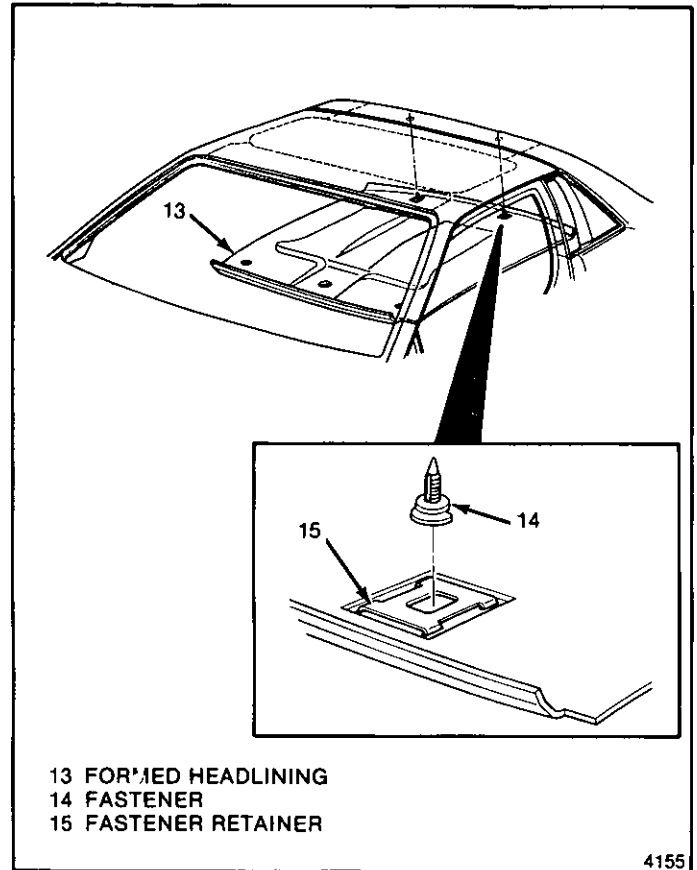

Fig. 8-5-Formed Headlining Installation
**Remove or Disconnect (Figure 8-5)**
8. Headlining assembly (13)
9. Two headlining fasteners (14) from fastener retainers (15)
**Install or Connect (Figure 8-5)**
1. Two fasteners (14) into fastener retainers (15)
3. Headlining (13) to roof and secure fasteners